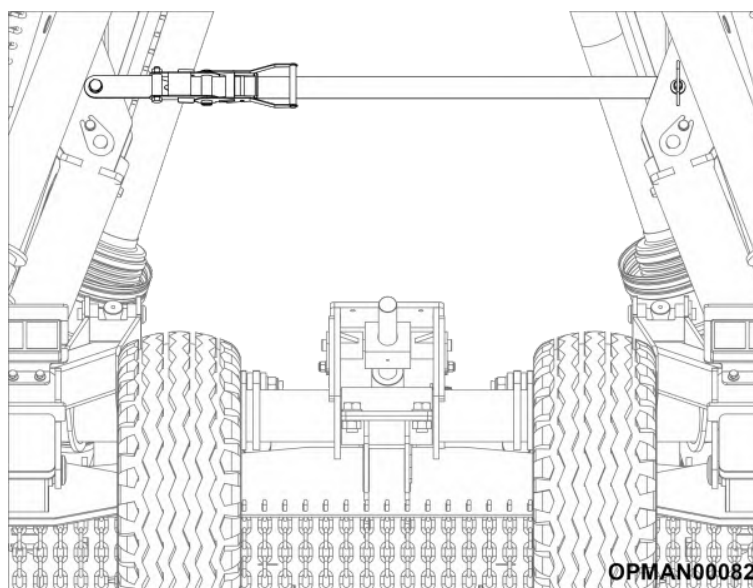

Figure 4.16
4.6.1.1 Remove the wing retention strap; see Figure 4.16.
- 4.6.1.5 Fit the wing retention strap; see Figure 4.16.